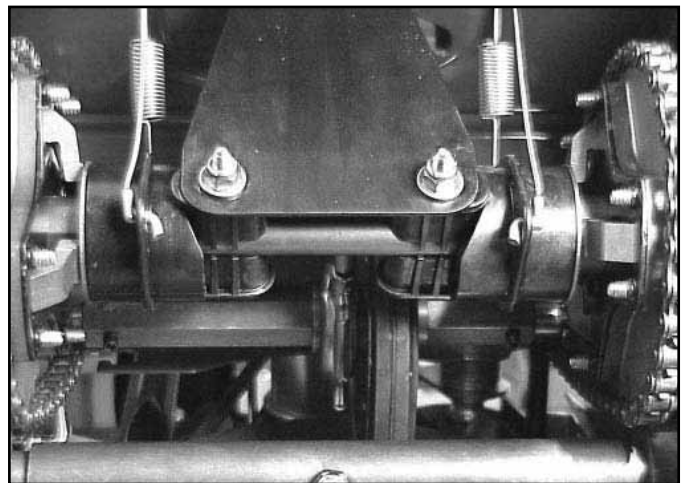

Fig 054
1. Feed the lower end of the cable through the shift plate and snap the cable into the plate. Install the lower end of the cable into the shift collar outside in, as shown (Fig. 054).